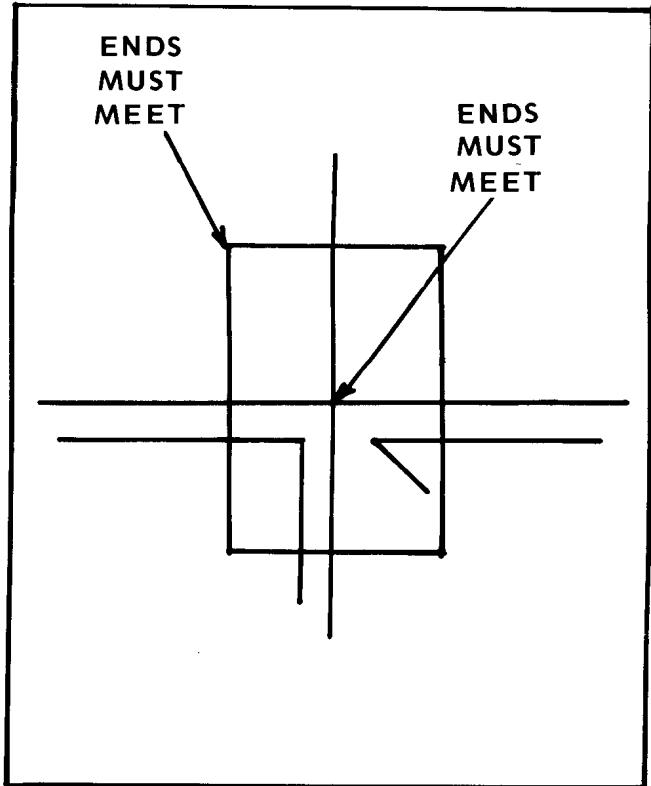

Figure 4-1 Test Pattern Display
- With the left hand pull out the INTERLOCK SWITCH. The screen should display the test pattern of Figure 4-1. If not try once more from step (c).
After recalling the test pattern visually, verify that the display looks close to that of Figure 4-1. If not refer to the following adjustment procedure.
- The ends of the two "L" shaped line segments around the center of the display must meet to form the square of Figure 4-1.